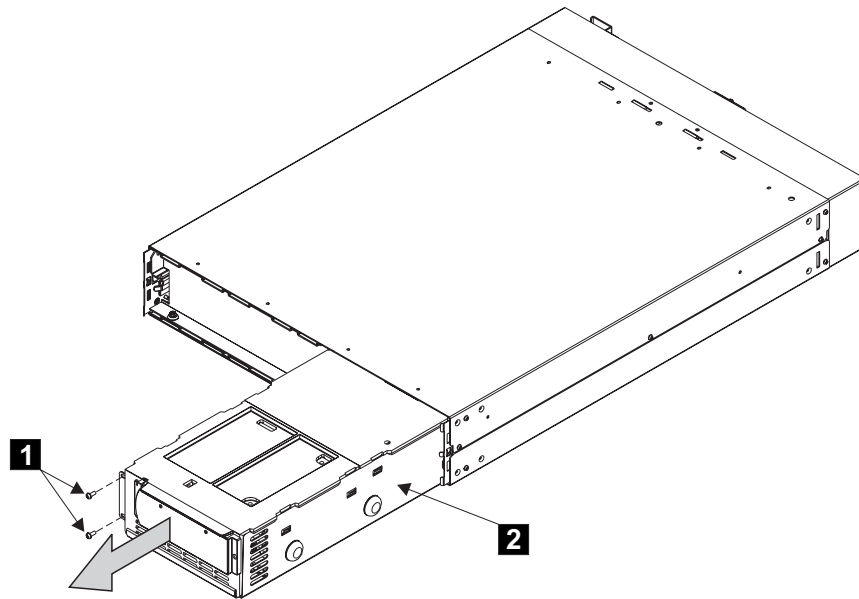

Figure 113. Removing the electronics unit from the uninterruptible power supply
4. Remove the two screws, **1** in Figure 113 on page 199.